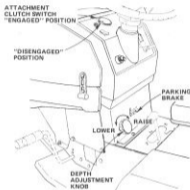

FIGURE 47
Pull Attachment Clutch Switch (Fig.47) out and up to engage clutch. There will be an engine hesitation as the clutch engages.
Fine adjustment of mower height is controlled by the Depth Adjustment Knob. Turn clockwise (↻) to raise mower, Turn counterclockwise (↺) to lower mower (Fig.47).
- Use Attachment Lift Lever to lower mower into cutting position. Start mowing at slow speed and increase ground speed by increasing throttle as conditions will permit. Average cutting height is approximately 2 - 1/2 to 2 - 3/4 inches. Height of cut can be adjusted by means of the Depth Adjustment Knob (Fig. 47). Turn Depth Adjustment Knob clockwise (↻) or counterclockwise (↺) to match preselected Lift Control Lever mowing height.
BEFORE MAKING ANY INSPECTION, ADJUSTMENT OR REPAIR: PUSH TRACTOR CLUTCH-BRAKE PEDAL COMPLETELY INTO BRAKE POSITION. MOVE GEAR SHIFT CONTROL LEVER TO "N" NEUTRAL POSITION. PLACE PARKING BRAKE IN "ENGAGED" POSITION. DISENGAGE ATTACHMENT CLUTCH SWITCH (FIG. 47).